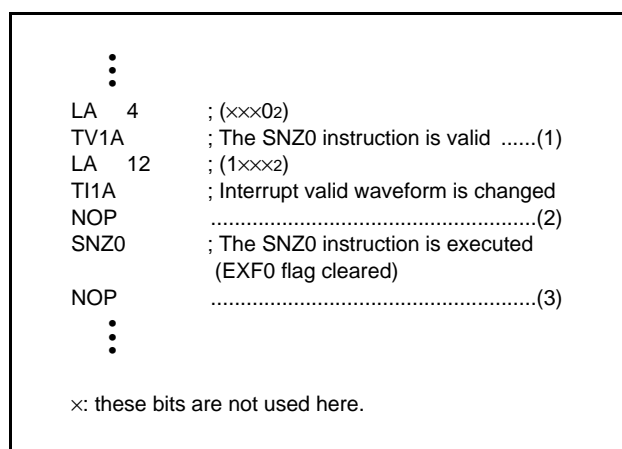

Fig 57. External 0 interrupt program example-3
- Depending on the input state of the P20/INT0 pin, the external 1 interrupt request flag (EXF0) may be set when the bit 2 of register I1 is changed. In order to avoid the occurrence of an unexpected interrupt, clear the bit 0 of register V1 to "0" (refer to (1) in Figure 57) and then, change the bit 2 of register I1 is changed.
In addition, execute the SNZ0 instruction to clear the EXF0 flag to "0" after executing at least one instruction (refer to (2) in Figure 57).
Also, set the NOP instruction for the case when a skip is performed with the SNZ0 instruction (refer to (3) in Figure 57).